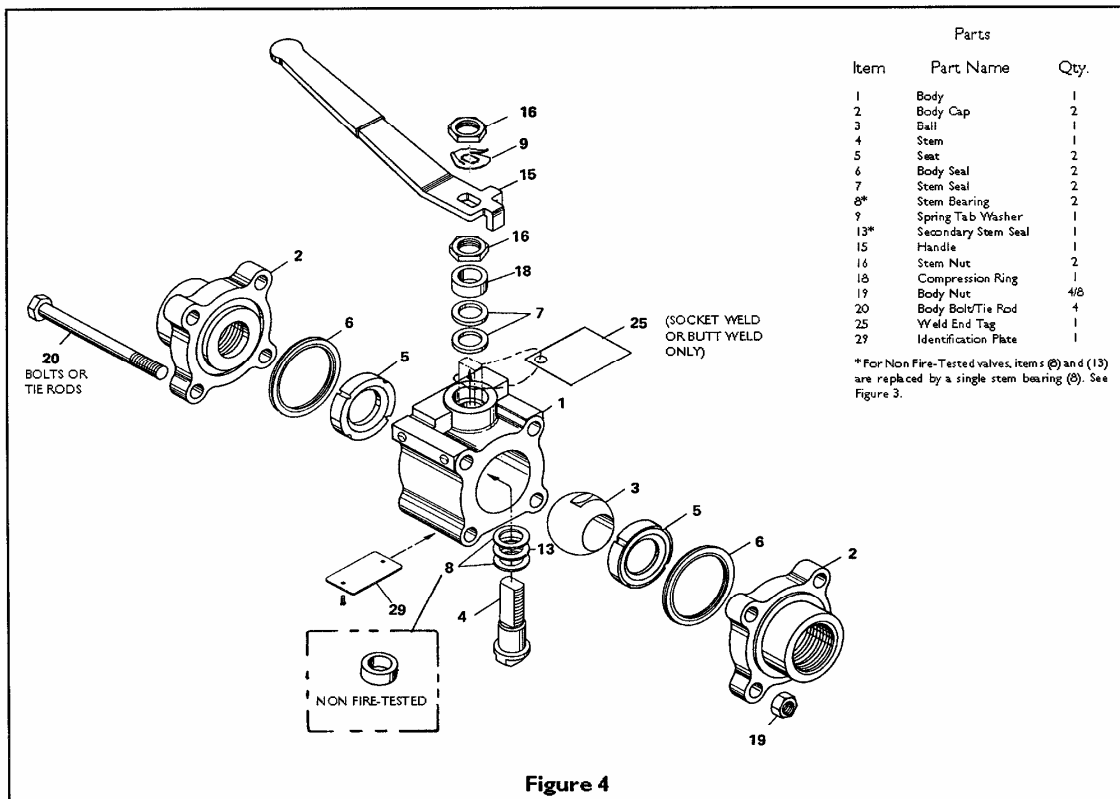

Figure 4
3. Holding the stem in place from the bottom, install two stem seals (7), a compression ring (18) from the outside and thread on one stem nut (16) until the stem starts to turn.
5. Align the stem blade with the ball slot. Insert the ball (3), and rotate the stem (4) to the ball closed position.
6. Working at either end of the body (1), place a seat (5) into the body. Fit it snugly against the closed ball. **NOTE:** The sealing surface of the seat is toward the ball (See Figure 4).